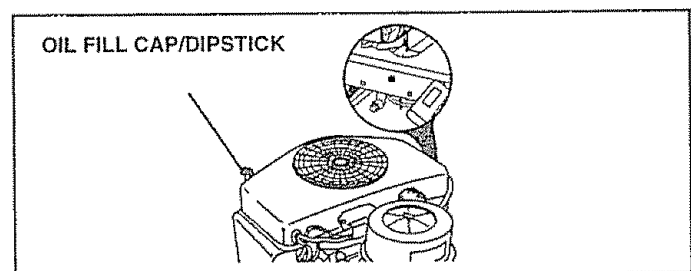

FIG. 10
CHECK ENGINE OIL LEVEL (See Fig. 10)
- When mowing large areas, start by turning to the right so that clippings will discharge away from shrubs, fences, driveways, etc. After one or two rounds, mow in the opposite direction making left hand turns until finished (See Fig. 10).